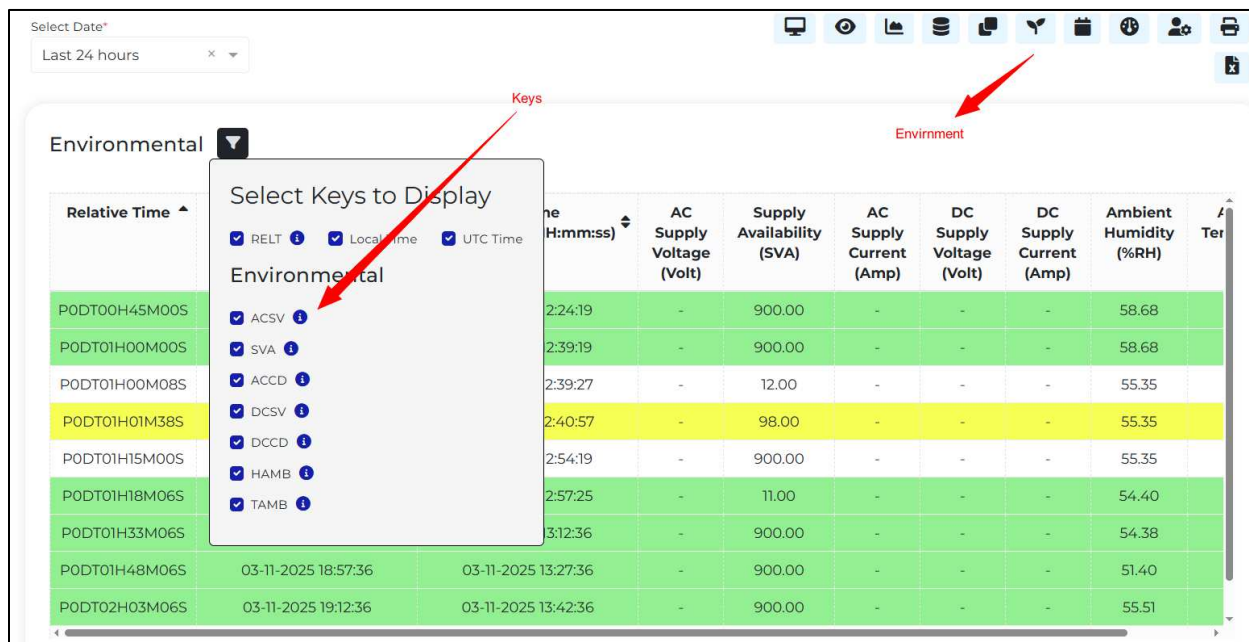

Figure 53 Environmental Data Dashboard for selected device
- Users can filter the required parameters for better readability, as shown in figure 53.